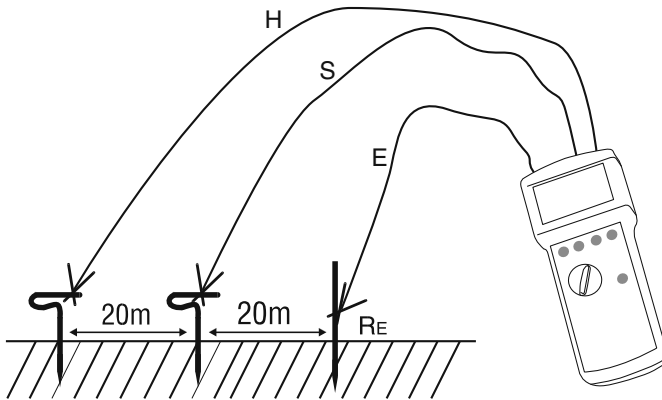

Figure 4: three-wire measurement
- 1) Locate earth rods for auxiliary ground, probe and ground, in one line if possible, as described in figure 4. The layout can also be realized by triangular shape. Distance between probe and earth, or probe and auxiliary earth must be at least 20 m. The test leads should not be parallel to each other and should not cross to avoid couplings.
- 2) Connect test leads to earth rods acc. figure 4.
- 3) Select "3 pole" measurement by using measurement selection switch (13).
- 4) Set contact voltage (11) by using key "UL" (14).
- 5) If required choose manual frequency selection by using key "auto/man" (16), and select test frequency with key "f1/f2" (12).
- 6) Press key "Start" (14)